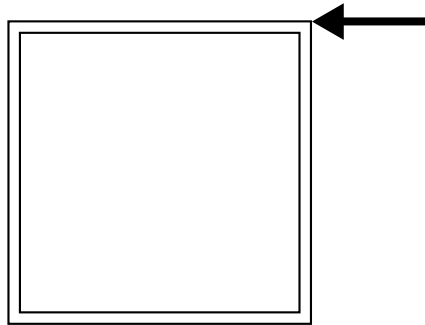

Fig.3
- 6 Fig. 3 shows a square metal frame with a horizontal force acting on it. Add one additional member to the frame that would prevent it changing shape under the given conditions.